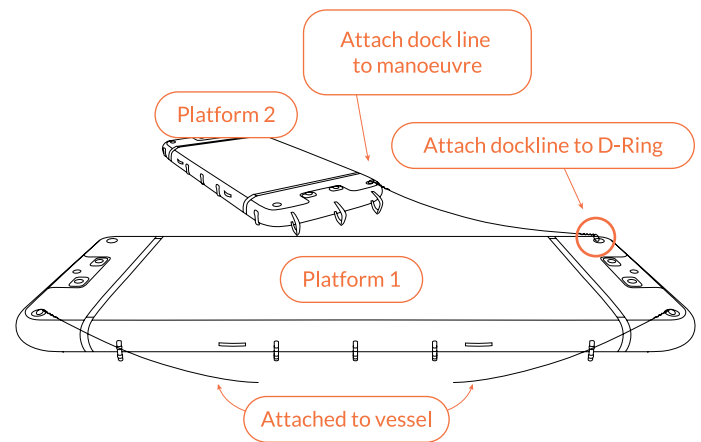

Fig 78 - Attach dockline to D-ring
5. Attach a Dock line to one of the D-rings on Platform 2 using a cow hitch. It is important to attach the Dock line to the D-ring that will be used to manoeuvre it for connection to Platform 1. (Fig 78)